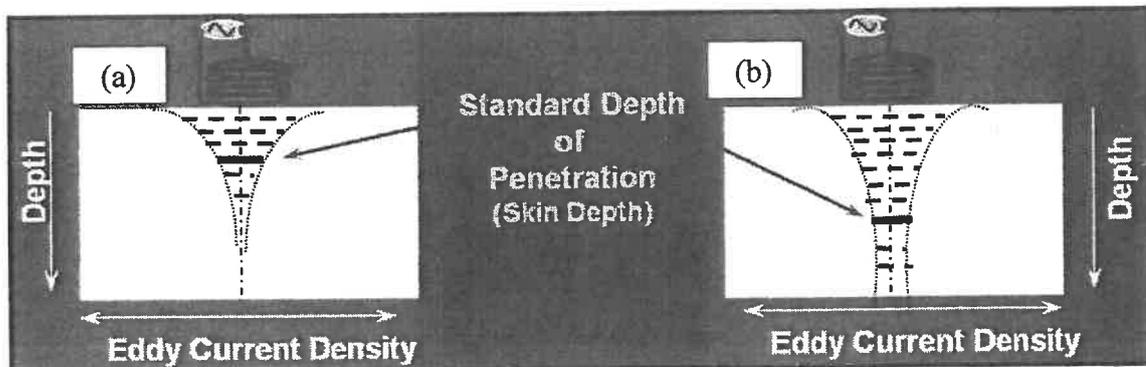

Figure 2: Standard depth of penetration for Eddy current testing (a) High frequency probe; (b) low frequency probe.
- (b) Eddy current testing is an inspection method that can be used for a variety of purposes including the detection of cracks, corrosion, material identification, heat treatment condition and coating thickness measurement. By referring to Figure 2, analyze the relation between the depth of penetration, frequencies and material properties (permeability and conductivity) in order to increase the efficiency of defect detection.